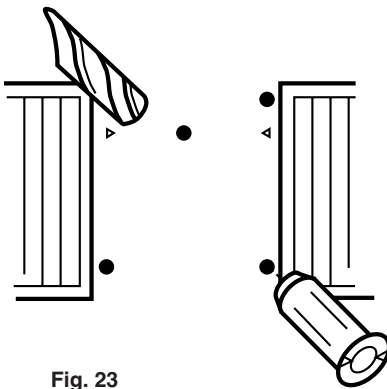

Fig. 23
3. Drill the anchorage holes 63mm (21/2 in) deep to accept suitable wall plugs (Fig. 23).